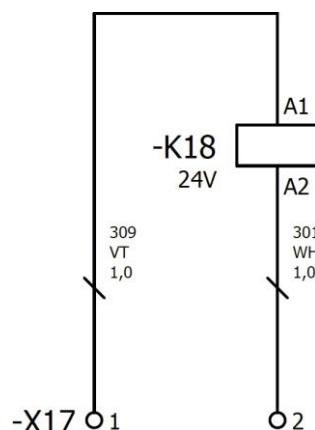

Figure 17: Wiring diagram extract terminal strip (-X17)
4. **Connect** power supply (+24 V_{DC}) (Figure 17):